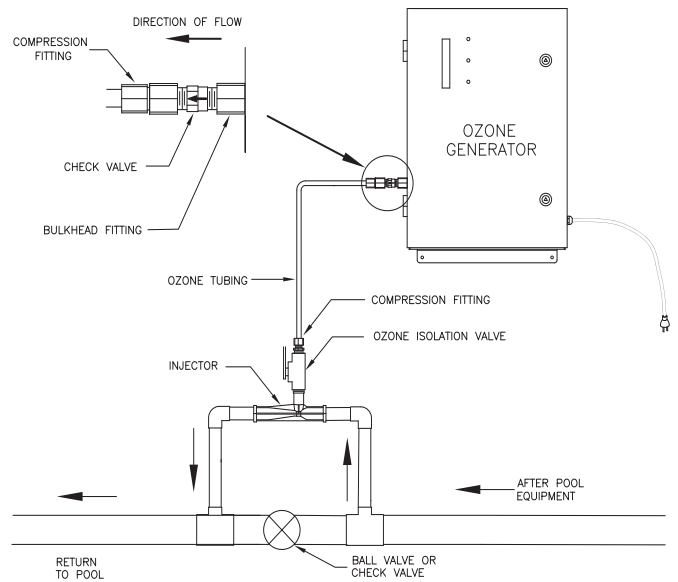

Figure 2: with Injector Assembly in Main Line
2. The injector assembly is also equipped with a Compression fitting. Connect the other end of ozone tubing to the injector suction port as described in step 1. **See figure 2.**